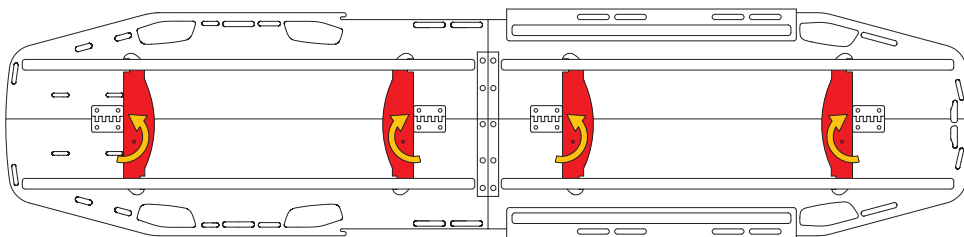

Fig.3
b) rotate the crossbars (F) until they lock into their slots (fig. 3),